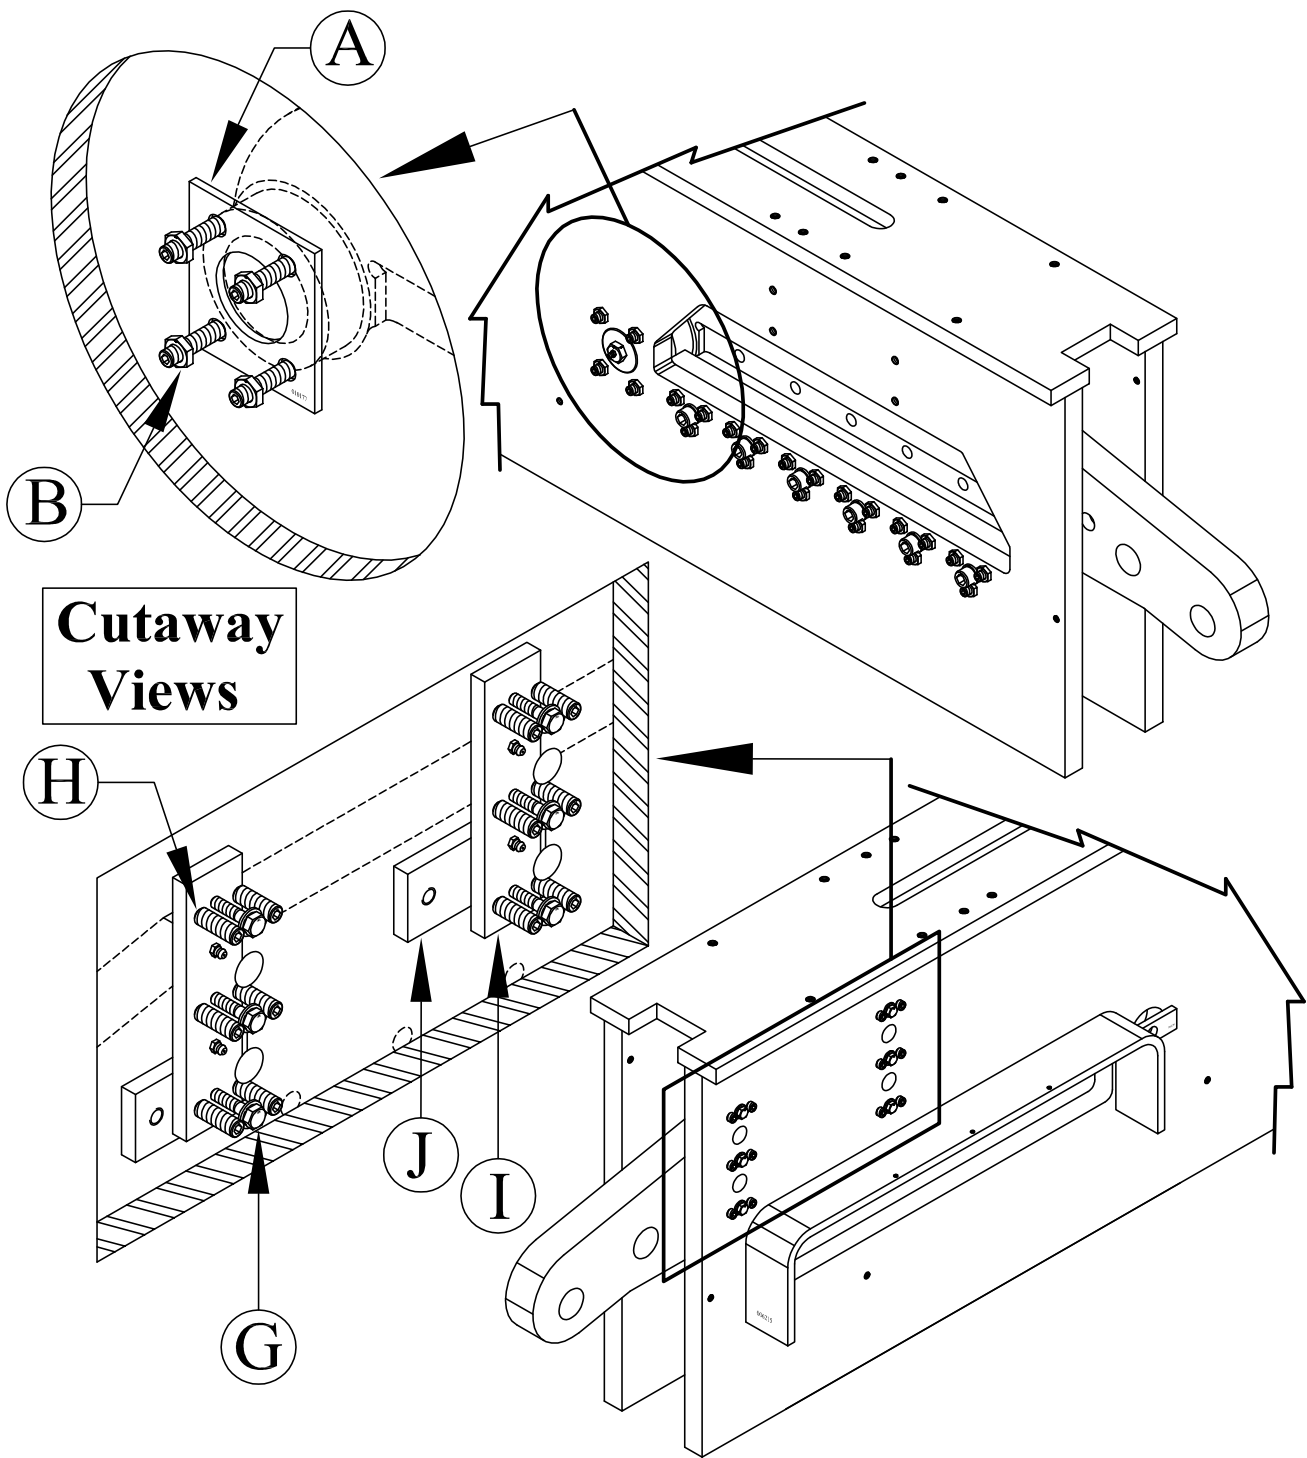

FIGURE 11
**REFER TO FIGURE 11 ON THE FOLLOWING PAGE.**
**Adjustment on the shear arm is maintained on the front (operator's) side by the pressure plate (A) and on the rear by the rub blocks (I & J). The cylinder cover shroud must be removed to gain visual access.**
**SEE FIGURE 11 ON THE FOLLOWING PAGE.**
- 2. Loosen the six adjusting screws (H) for each of the rub blocks (I) and remove the rub blocks by taking out the three mounting screws (G). (If excessive concave wear is noted on the rub blocks, they can be turned and the back surface used.) Set the pressure plate adjustment before resetting the rub blocks.**
- 3. For the pressure plate adjustment, loosen the lock nuts (B) on the four adjusting screws that engage the pressure plate (A).**
- 5. Replace the rub blocks (I). With the shear arm in the down position, tighten the bottom adjusting screws (H) until the rub blocks come in contact with the shear arm rub blocks (J). Raise the arm about half way and adjust the middle two adjusting screws (H) until the rub blocks make contact. Then, raise the arm completely and adjust the top two screws. (Once again, excessive tightening will cause unnecessary wear.) Check to be sure that the rub blocks (I) are in contact with the shear arm rub blocks (J) throughout the full stroke.**
- 6. Tighten the lock nuts (A) on the pressure plate adjusting screws and mounting screws (G) on the rub block.**